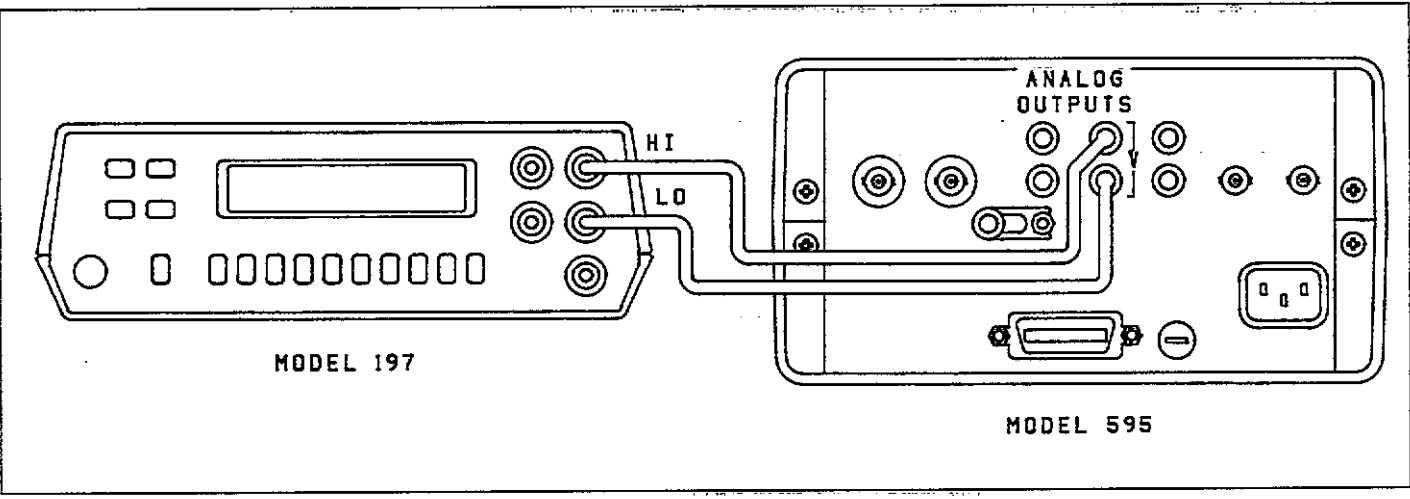

Figure 8-5. V Analog Output Calibration Setup
8. Set the voltage source to output 00.00V, disable SUPPRESS, and connect the DMM to V ANALOG OUTPUT as shown in Figure 8-5.